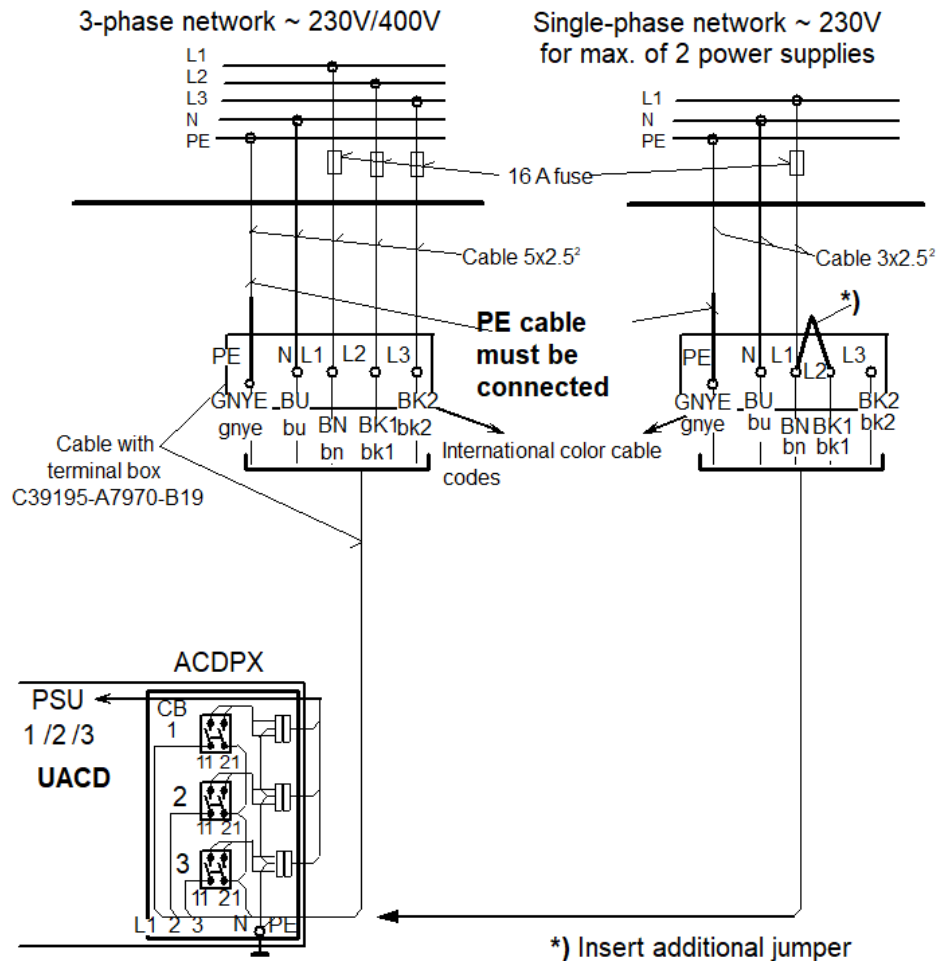

Figure 99: Three-phase/single-phase connection for two power supply units
- b) Connect the power switches 1, 2 and 3 to the ACDPX in the power supply frame of the UACD, as shown in the Figure Figure 99: Three-phase/single-phase connection for two power supply units on page 107